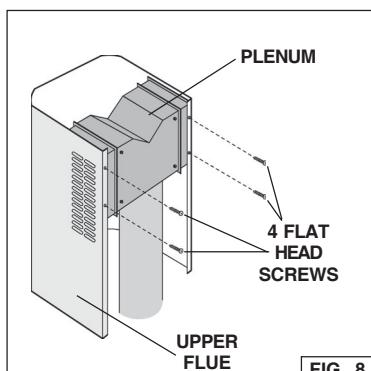

FIG. 8
9. Secure the recirculation plenum to the upper flue with (4) flat head screws. Fig. 8